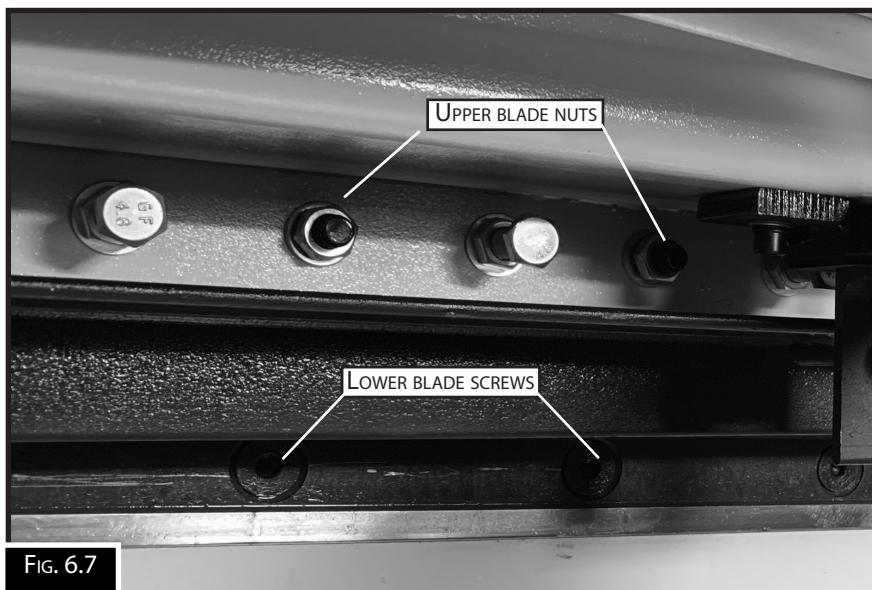

Fig. 6.7
3. Release the entire lower blade screws, accept for one screw in the centre of the blade. (Fig. 6.7) Place two dowels 12mm diameter by 100 mm long into two screw holes, one at each end of the blade.
4. Two people will be required at this stage. Whilst holding the blade in position, remove the remaining screw. Slide the lower blade onto the two dowels. While taking the weight off the blade, remove the dowels and lower the blade. Once the blade has been removed then remove the upper blade by loosening the nuts, (Fig. 6.7) and removing all but two of the nuts. Once the blade has been released from its position then, support the blade and remove the last two nuts, and remove the blade.